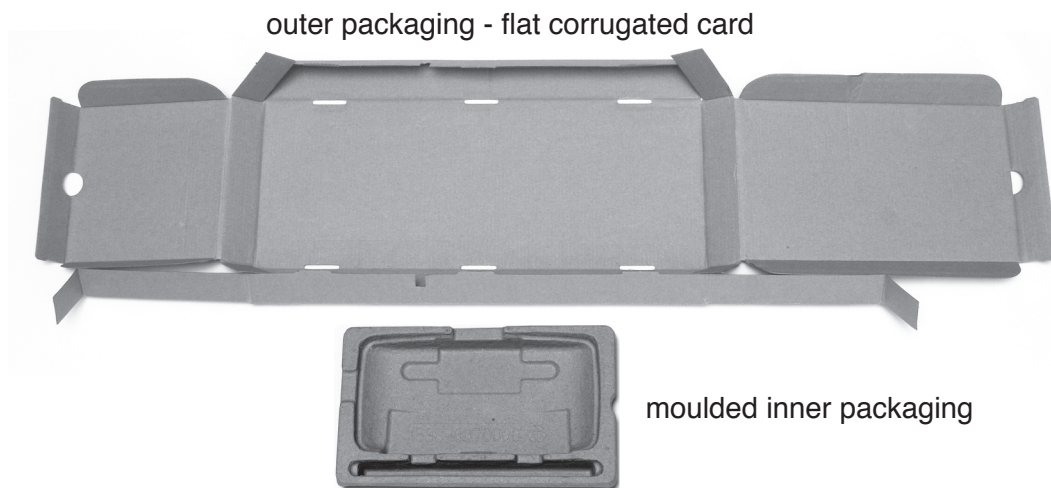

Fig. 5
- (b) Fig. 5 shows packaging for a delicate electronic device. The moulded inner packaging fits inside the assembled outer. When the box is assembled no glue is used.